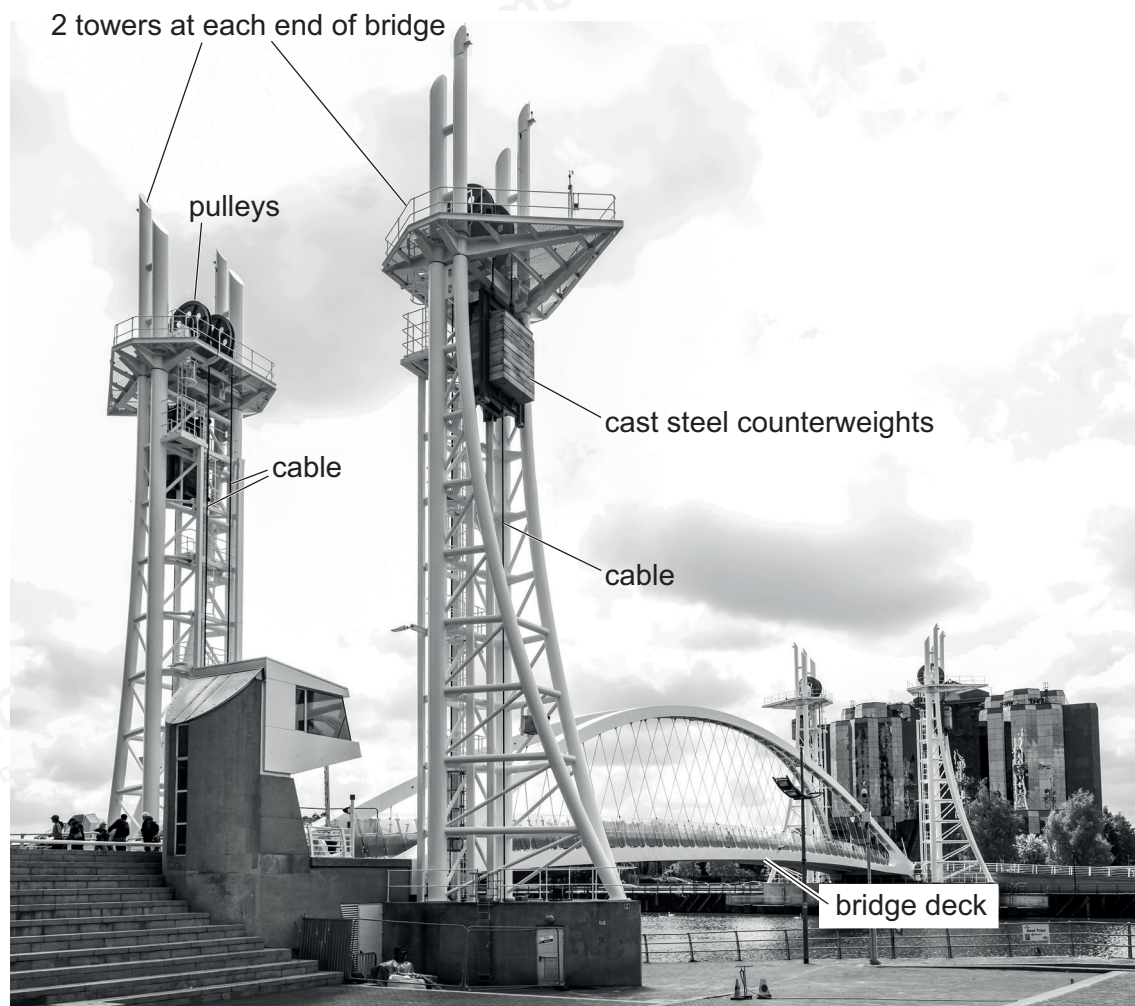

Figure 10.1
- 10 Figure 10.1 shows a bridge that can be raised to allow ships to pass underneath the bridge. The bridge deck is raised by a set of four winches, one at each tower. Each winch is operated by winding cables around pulleys and onto drums on each tower, lifting the bridge deck vertically.